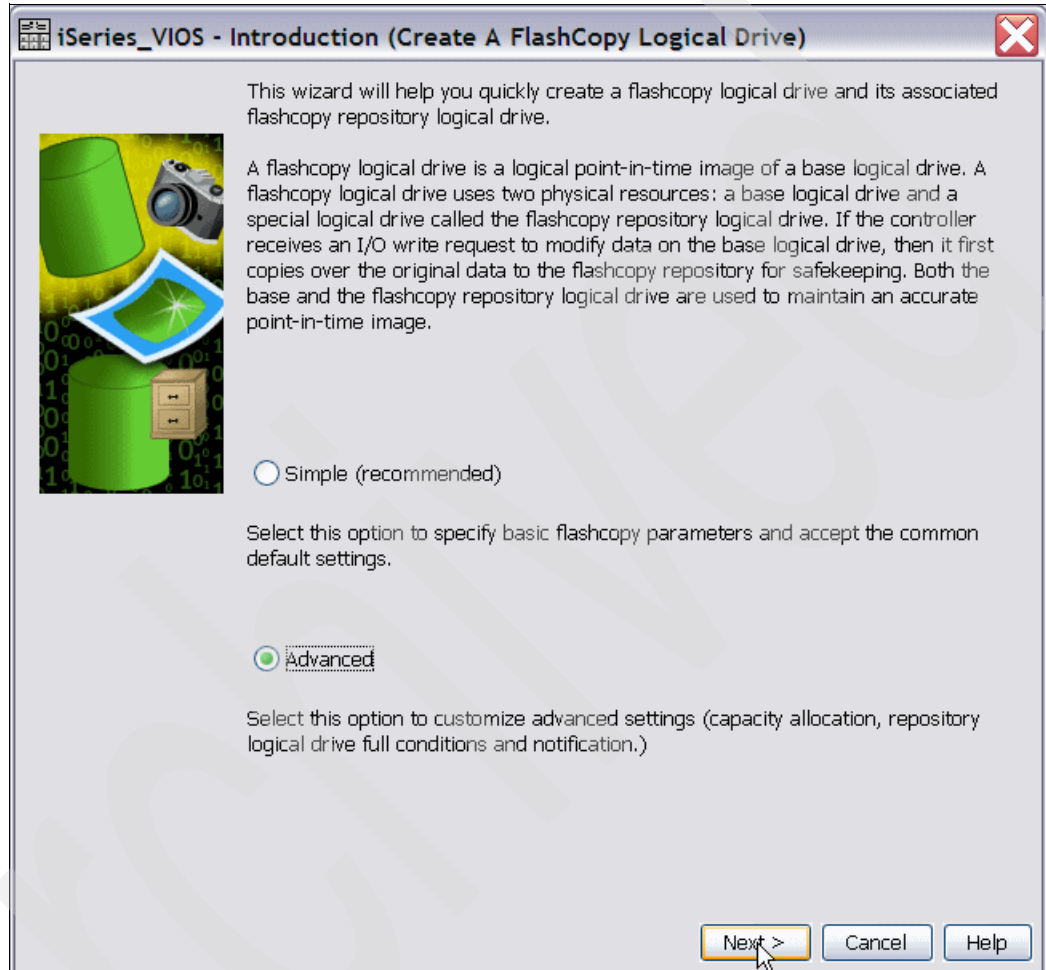

Figure 8-5 Choose the way to create FlashCopy
- In the first wizard window you choose to perform either the simple or the advanced way of creating FlashCopy. When you select the simple way the default values, such as percentage of capacity for FlashCopy repository logical volume, RAID array to define FlashCopy logical volumes, and so on, are automatically chosen. With the advanced way, however, you can change the default values according to your needs. After making a selection click **Next**. In our setup we choose the advanced way, as shown in Figure 8-5.